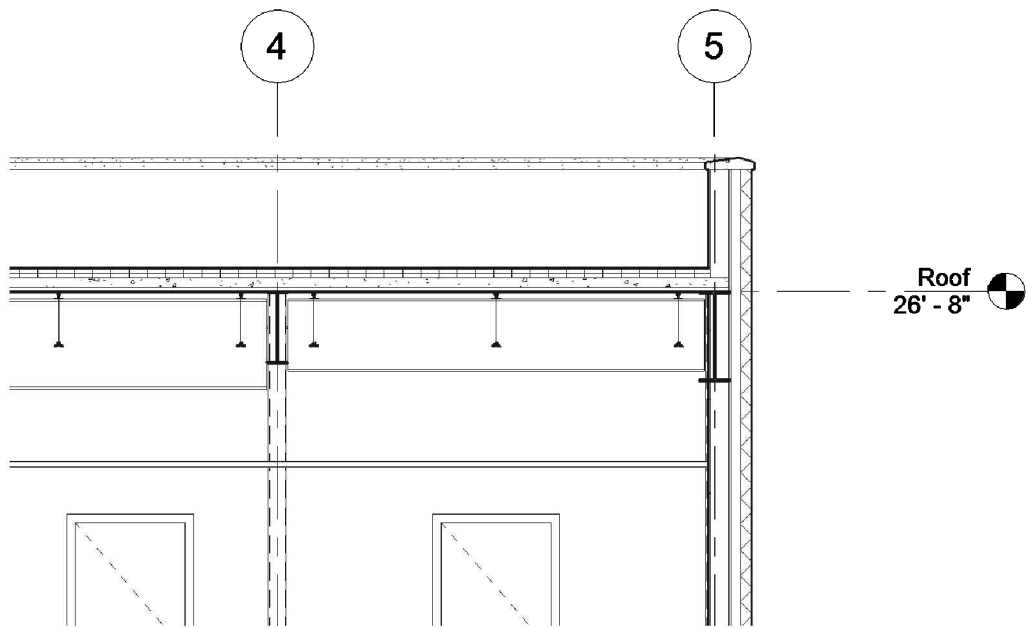

FIGURE 10-3.3 Longitudinal section view enlarged to show detail
8. Zoom in to the upper right corner to see the detail available in this section view, near the intersection of the Roof level datum and grid line 5. (See Figure 10-3.3.)